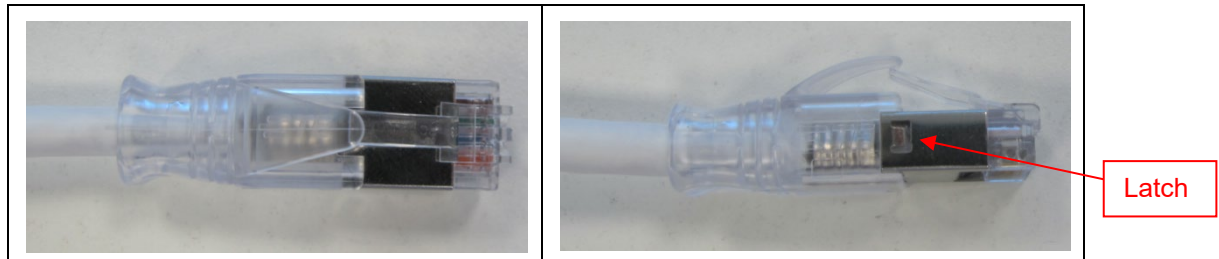

Figure 12. Slide Boot over Crimped Plug
6. Slide the boot over the crimped plug and shield up to the end. A double click shall be heard when both latches are in their place See Figure 12.